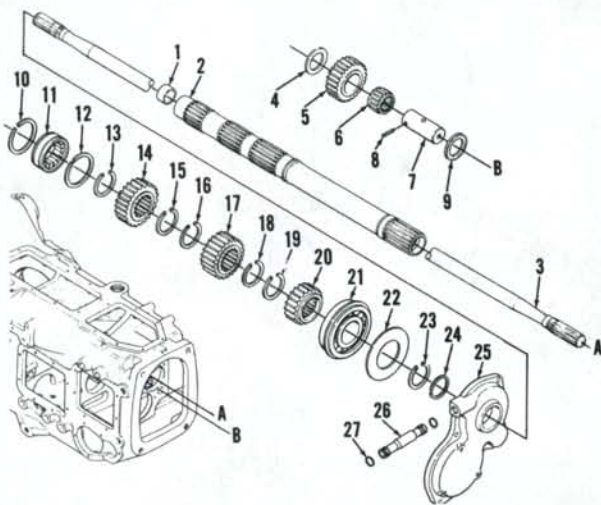
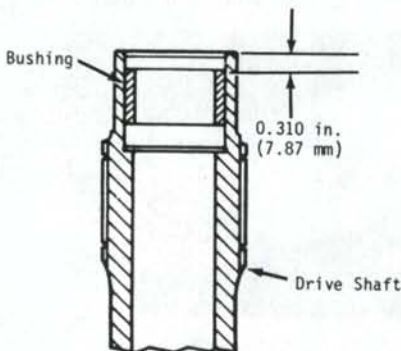

Fig. 101—Exploded view of drive shaft assembly on Model 2090 and 2290 tractors equipped with mechanical shift transmissions.
Fig. 106—Install rear pto and pump drive shaft bushing to depth shown.
107. RANGE DRIVE SHAFT. To disassemble range transmission, tractor must be separated (split) as outlined in paragraph 106. Remove the front bushing for the pto and pump drive shaft. Remove seal ring from range drive shaft. Remove front side and top transmission access covers. Disconnect lubrication tube and remove fitting from upper right on transmission housing, then pull out oil tube (26—Fig. 101) from bearing retainer (25) and transmission. Drive roll pin (1—Fig. 100) into range shift rail through access hole in side cover flange as shown in Fig. 99. Turn shift rail until flat area on rail is toward outside of transmission. Then push shift rail toward rear of transmission and remove shift rail from rear of transmission wall.
Remove bearing retainer (25—Fig. 101) and oil shield (22). Pull pto and pump drive shaft (3) out of range drive shaft (2) until snap ring is visible on inside end of shaft, then remove snap ring from shaft end through top rear opening in transmission case. Remove pto and pump drive shaft from range drive shaft. Pull range drive shaft assembly from transmission.
Remove retaining rings (10 and 12—Fig. 101), then remove rear drive shaft bearing (11) from transmission. Disassembly of range drive shaft assembly is obvious after examination of unit and reference to Fig. 101.
108. REVERSE IDLER SHAFT. To remove reverse idler shaft and gear assembly, first drive roll pin (8—Fig. 101) into idler shaft until it bottoms in shaft. Push idler shaft (7) rearward removing thrust washer assemblies (4 and 9) and idler gear and bearing (5 and 6) as shaft is removed.
Assemble reverse idler shaft as follows: Insert reverse idler shaft (7—Fig. 101) into front of transmission. Place thrust bearing assembly (9), black side toward rear of transmission. Install reverse idler gear (5) with needle bearing (6) onto shaft. Then install rear thrust bearing assembly (4), black side toward gear. Align pin hole in rear end of shaft with pin hole in transmission boss and install roll pin (8) until pin is flush with top surface of transmission boss.
113. RANGE DRIVE SHAFT. If measured inside diameter of drive shaft bushing (1—Fig. 101) exceeds 1.1385 inches (28.918 mm), renew bushing. Remove old bushing by splitting with a chisel. Use Loctite Primer and Loctite 271 sealant or equivalent on new bushing and install to depth shown in Fig. 106. Inside diameter of new bushing should be 1.1265-1.1285 inches (28.613-28.664 mm) after installation.
Heat and install front drive bearing (21—Fig. 101) with outer retaining ring facing away from the three gear spline end of shaft. Install snap ring (23) and seal ring (24). Install reverse drive gear (20) with long hub side against front bearing. Install snap ring (19), snap ring (18), low range gear (17), snap ring (16), snap ring (15), high range gear (14) and snap ring (13). Install rear drive shaft bearing (11) and bearing retaining rings (10 and 12) in transmission bore.